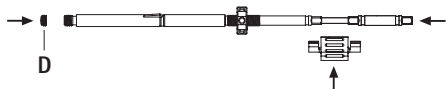

Fig. 12
- Insert the screwdriver in the inner sleeve, secure it with the spacer and install locking screw **D**, see Fig. 12.